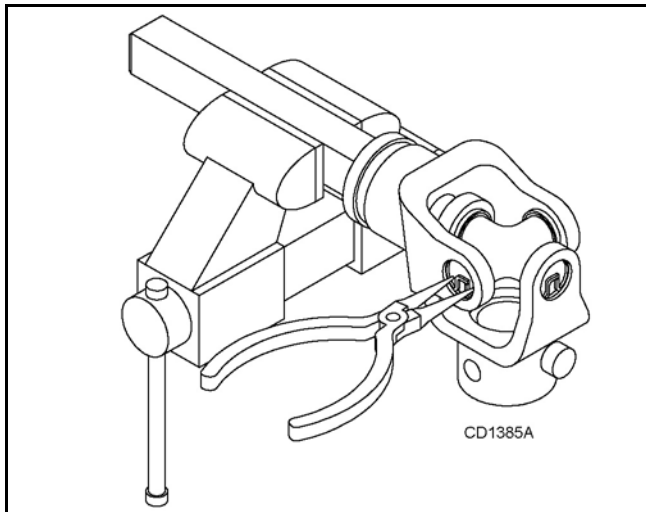

Figure 27. Remove Snap Ring
1. Remove external snap rings from yokes in four locations as shown in Figure 27.